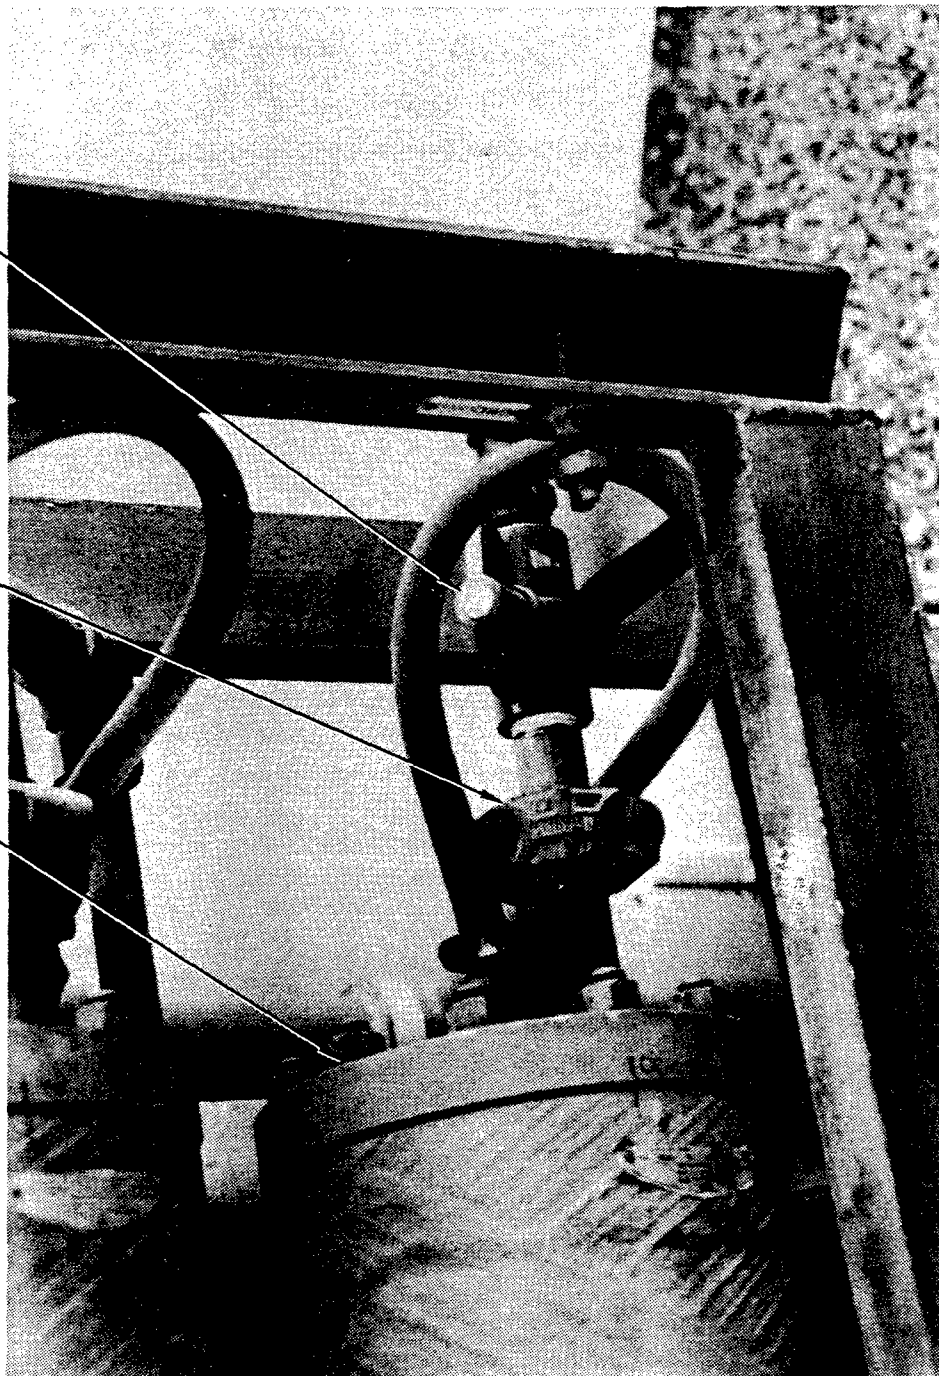

Figure 2-10. Valve Adapter Assembly Attached to Bottom RO Vessel.
- g. Attach the other valve adapter assembly to the bottom RO vessel as depicted in figure 2-10.